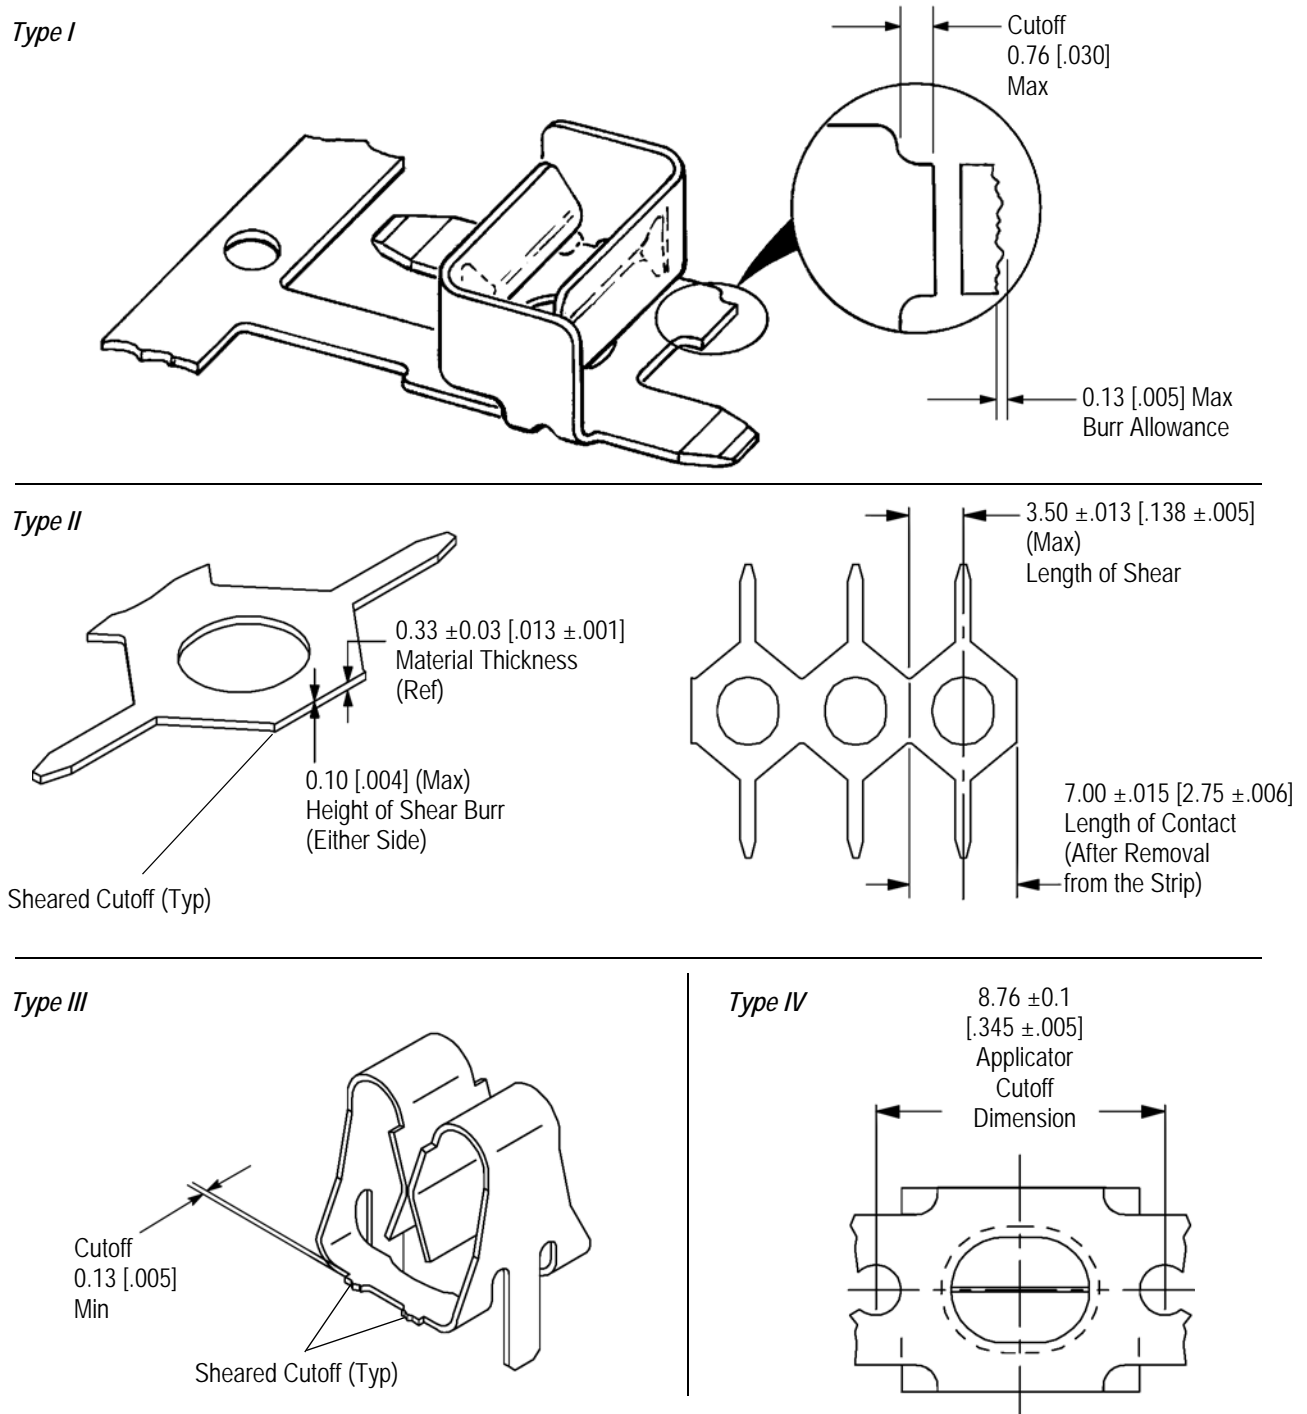

Figure 3
Individual contacts are removed from the carrier strip by shearing the material between adjacent contacts. In order to provide proper application of the contacts, the dimensional requirements for the sheared cutoff is provided in Figure 3.
1. The allowable length of shear must not exceed the dimension shown in Figure 3.
2. The individual contact must meet the dimensions shown in Figure 3.
3. The height of shear burr must not exceed the dimension shown in Figure 3.
4. Burr allowance on cutoff should not exceed the dimension shown in Figure 3.